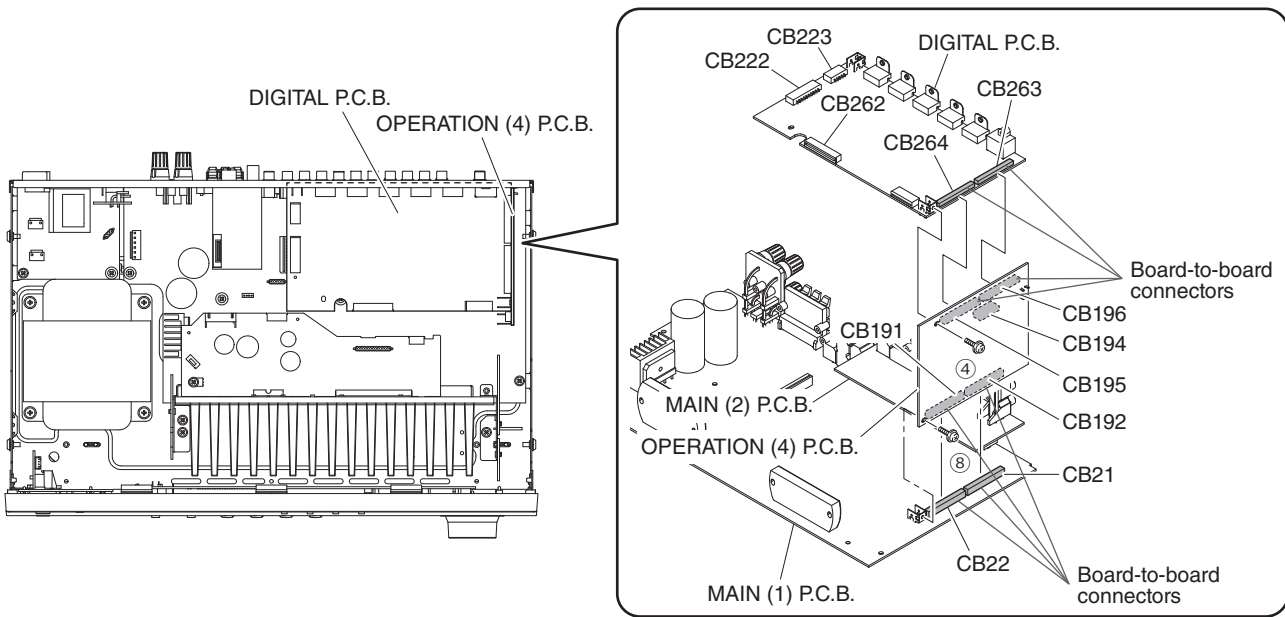

Fig. 2
- a. Remove CB222 and CB223, unlock and remove CB262. (Fig. 2)
- b. Remove screw (4). (Fig. 2)
- d. Remove the DIGITAL P.C.B. which is connected directly to the OPERATION (4) P.C.B. with board-to-board connectors. (Fig. 2)
**4. Removal of OPERATION (4) P.C.B.**
- a. Remove CB194. (Fig. 2)
- c. Remove the OPERATION (4) P.C.B. which is connected directly to the MAIN (1) P.C.B. with board-to-board connectors. (Fig. 2)